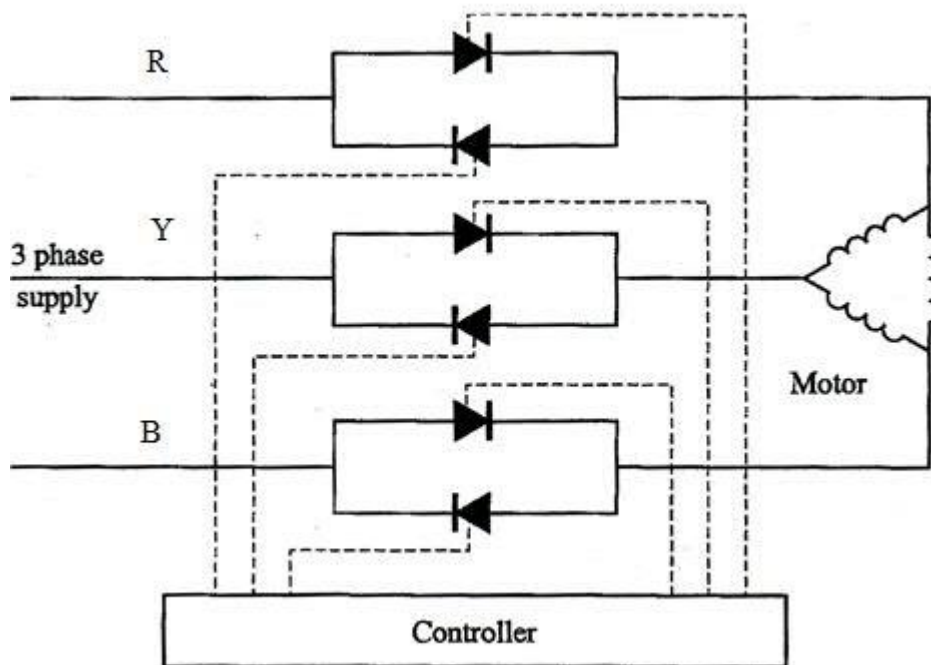

Fig Q7
7. Fig Q7 shows a *soft start* circuit for a delta connected induction motor using six thyristors (silicon controlled rectifiers).
- (a) Explain how the circuit arrangement reduces the current drawn by the motor during the starting sequence. (7)
- (i) the commencement of starting; (3)
- (ii) part way through the starting operation; (3)
- (iii) the completion of starting. (3)